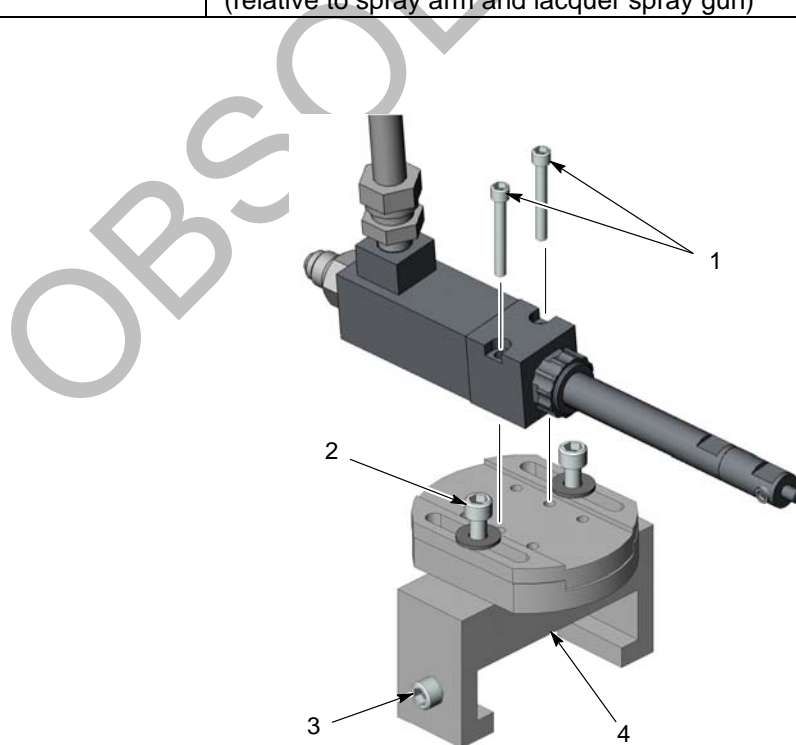

Figure 4 Mounting and Positioning
See Figure 4. Use the two socket-head screws (1) (included with the mounting bracket) to secure the CleanSpray XT spray gun to the mounting bracket.
- To adjust the CleanSpray XT spray gun position, adjust the screws identified in Table 1 and Figure 4.